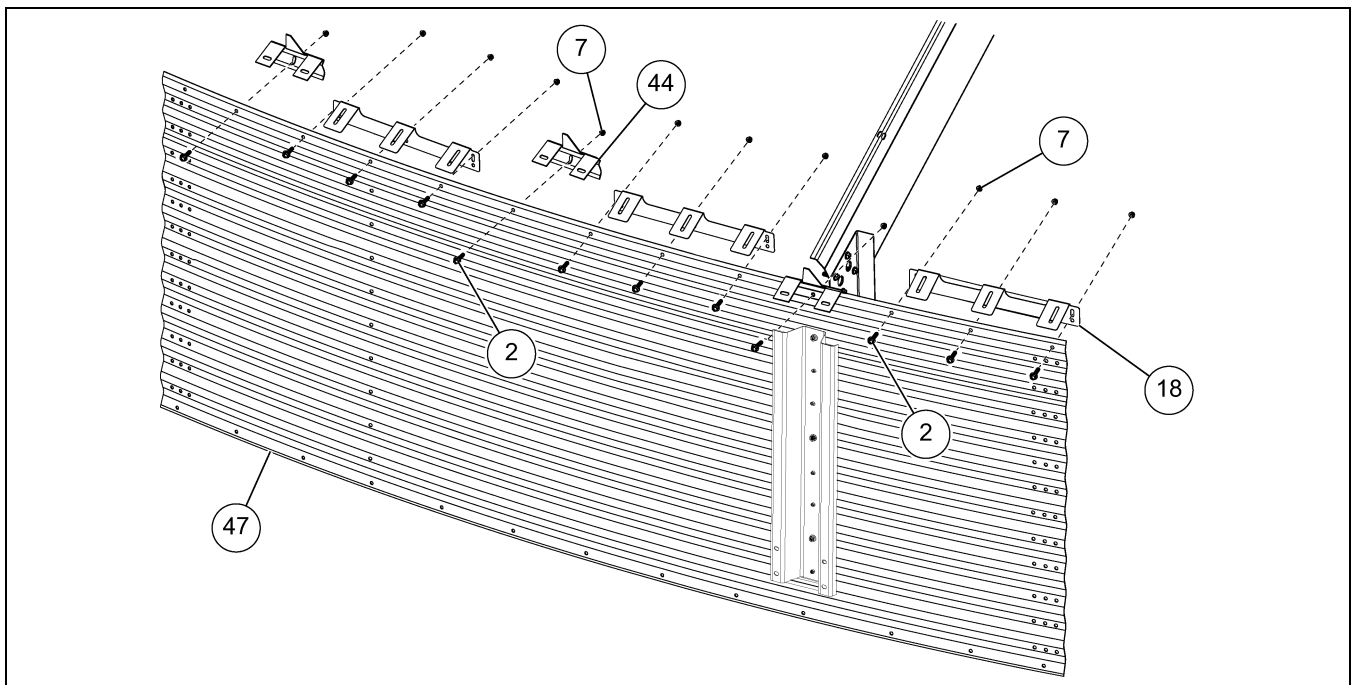

Figure 4D Installing the Eave Clip and Eave Angle to the Sidewall Sheet (2.66")
2. Install the intermediate eave angle (18) to the sidewall sheet (47) with 5/16" x 1" flange bolts (2) and 5/16" flange nuts (7) between the two eave clips (44 or 45).
NOTE: Make sure to install the intermediate eave angle (18) to the inside of the sidewall sheet (47) for 2.66" bins. (See Figure 4D.)